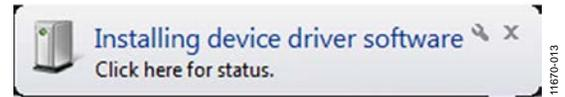

Figure 13. Installing Driver Software Message
1. Verify that the SDP Blackfin board is connected to the PC using the USB cable. The window in Figure 13 pops up on your task bar; Windows will install any other necessary drivers.